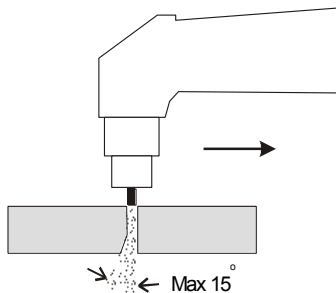

Fig. 8
1. The cutting speed is too high. Make sure the slope of the cutting arc does not exceed about  $15^\circ$  (see Figure 8).